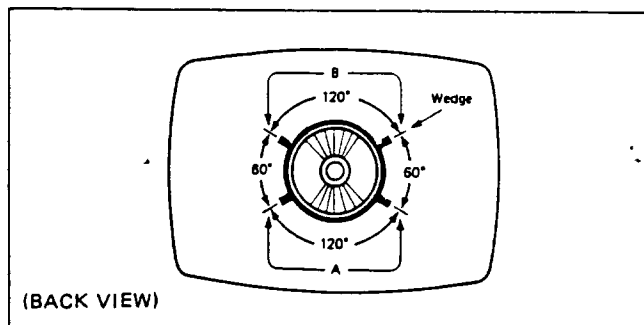

Fig. 6
4. Repeating 2 and 3, fix the position of the deflecting yoke with 4 wedges so as to produce the best condition for the convergence of points L, R, T and B, on the screen. Removable paper of the double-sided adhesive tape on inserting the wedges in order of A and B using double-sided adhesive tape after they are firmly inserted into position. (Fig. 6).